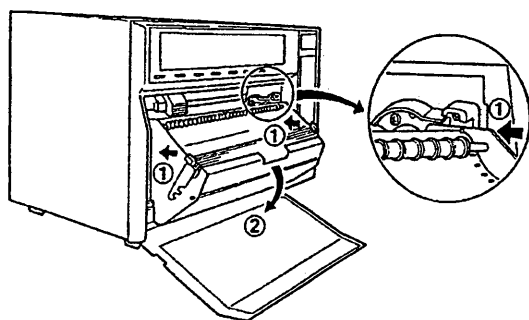

Figure 6.1.7
- 8) Engage the projections on the chart cassette with the support mechanism on the recorder chassis, and insert the cassette into the support mechanism completely (see Figures 6.1.7 ① and 6.1.8 ①).
- 9) Swing and push the chart cassette into the recorder chassis until it locks with a click (see Figures 6.1.7 ② and 6.1.8 ②).